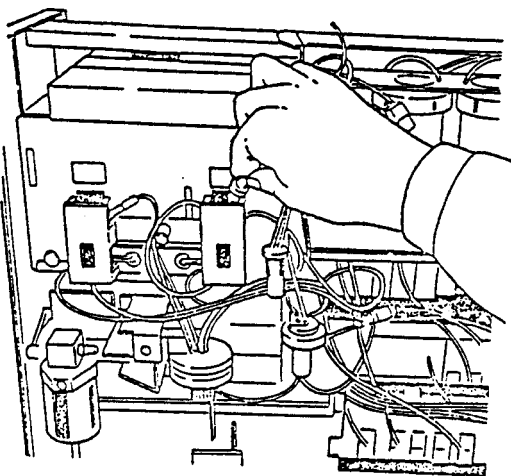

Figure 6-6-1 Removing Top Cap of Transducer Chamber
- E. Drain the liquid in the transducer chamber by the "6. DRAIN SAMPLE" in the PROGRAM SELECT menu. Remove the top caps for the WBC and RBC transducer chambers as shown in Figure 6-6-1.
- M. Drain the sample in the transducer chamber by the "6. DRAIN SAMPLE" in the PROGRAM SELECT menu. Remove the top covers for the WBC/RBC transducer chambers. (See Figure 6-6-1).